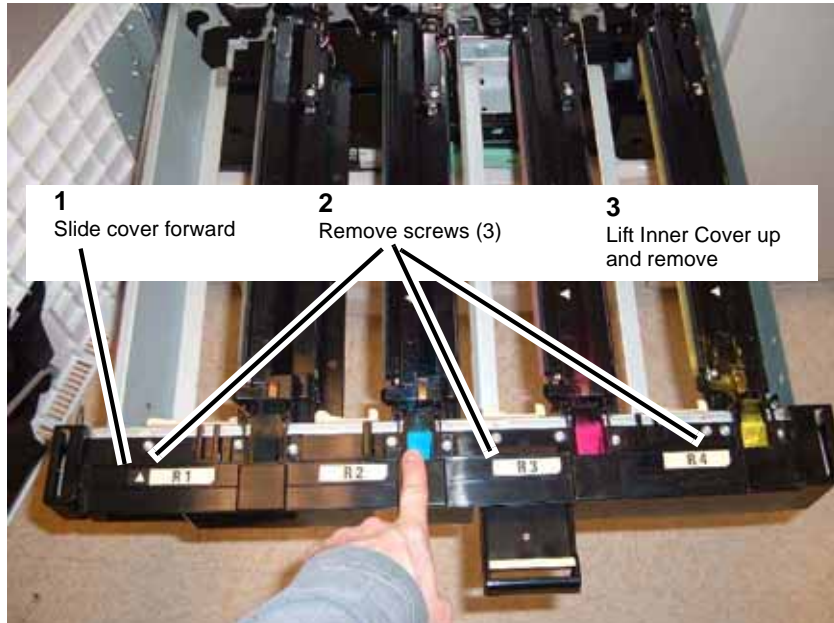

Figure 3 Removing the Inner Cover
4. Remove the Inner Cover (Figure 3).